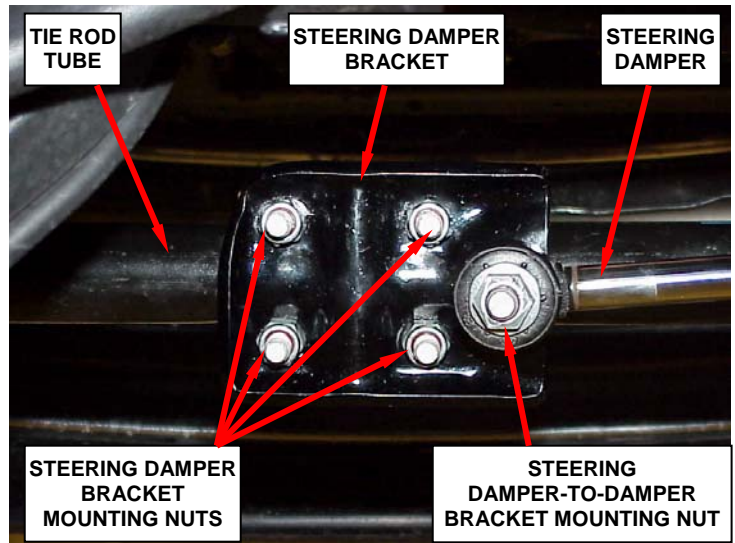

Figure 5 – Steering Damper Bracket
- a. Remove and save the steering damper-to-damper bracket mounting nut (Figure 5).
- c. Remove and discard the four steering damper bracket nuts, two u-bolts and the steering damper bracket (Figure 5).